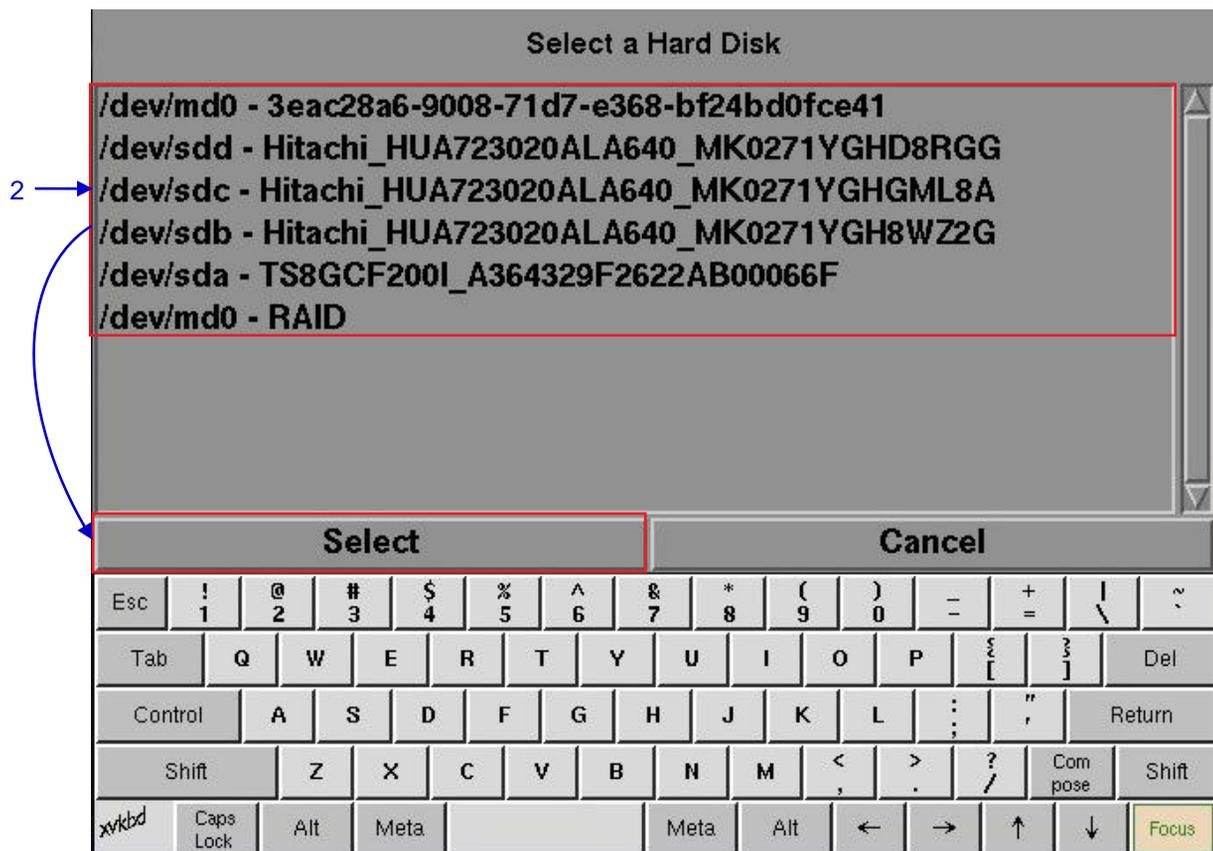

Figure 88 Selecting the hard disk to be viewed.
- 1 Select **Hard Disk Information**. A new window appears as seen in **Figure 88**.